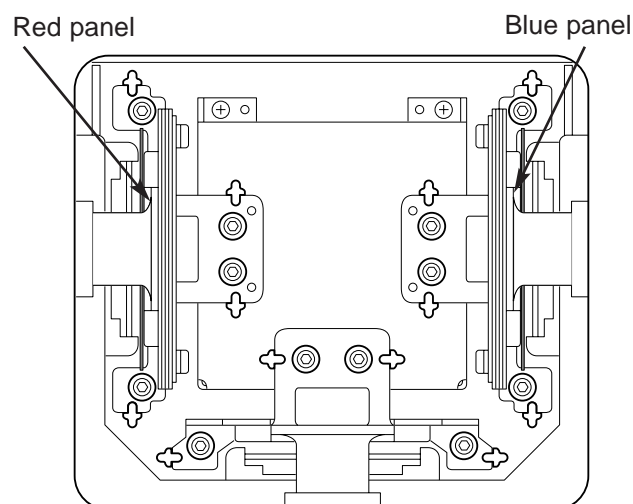

Fig.6
2. Adjustment screw "B" moves the image right and left (**Fig.6**).
3. Adjustment screw "C" moves the image up and down (**Fig.6**).